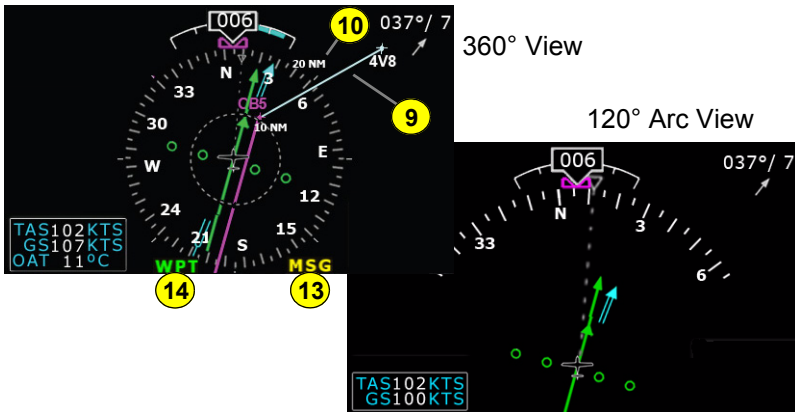

Figure 4. EHSI Views
The Horizontal Situation Indicator (HSI) displays as either a full 360° circle or as a 120° arc (See Figure 4 on page 12). All lower-half display features can appear in either the 360° or the 120° arc EHSI views.
4) **HSI**—The Horizontal Situation Indicator (HSI) can be viewed as either a full 360° circle or as a 120° arc. The EHSI views are shown in Figure 4: